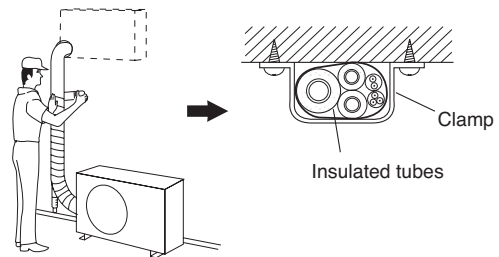

Fig. 18
- (1) At this time, the 2 refrigerant tubes (and electrical wire if local codes permit) should be taped together with armoring tape. The drain hose may also be included and taped together as 1 bundle with the tubing.
- (2) Wrap the armoring tape from the bottom of the outdoor unit to the top of the tubing where it enters the wall. As you wrap the tubing, overlap half of each previous tape turn. (Fig. 18)
- (3) Clamp the tubing bundle to wall, using 1 clamp approx. every 120 cm.